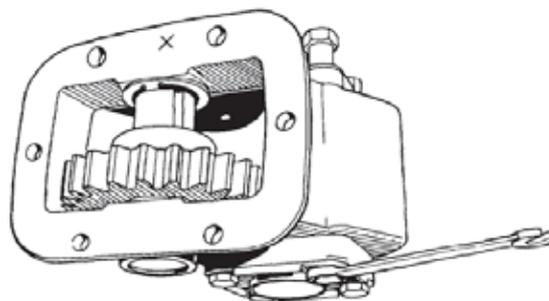

Figure 5 Removing Bearing Cover Plate
- i. Remove the four bolts securing the drive shaft bearing cover plate to the housing and remove the cover plate and gasket (Figure 5).